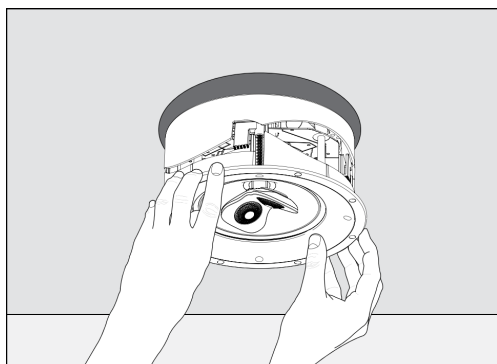

Fig. 3c
- 3) Gently push the assembly into the ceiling or wall hole (Fig. 3c or 4d).